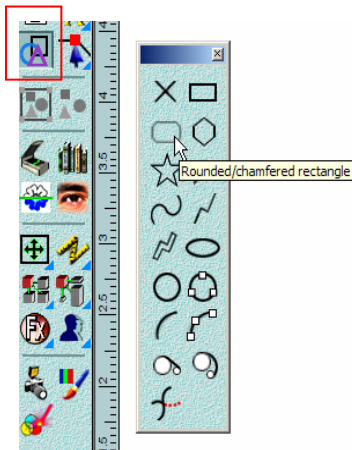

Figure 11-2
- Open the “Geometrical Shapes” tool pallet and select the tool labeled “Rounded/Chamfered Rectangle” (Figure 11-2).